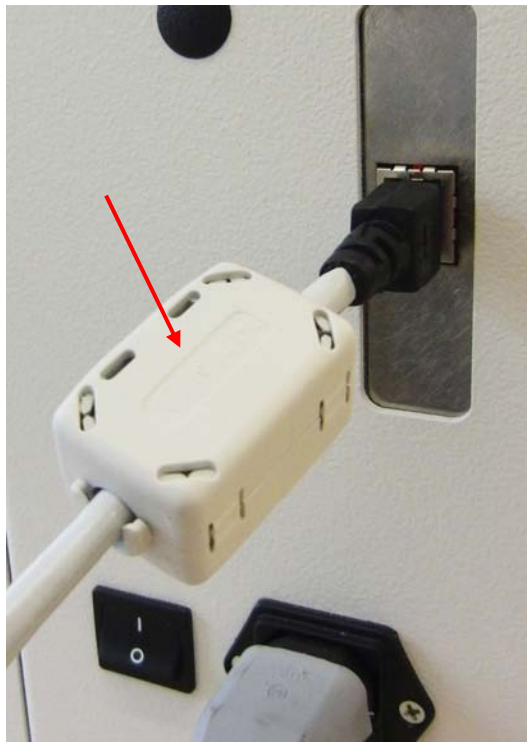

Figure 39: Ferrite with plastic case
- Please attach the “Splitting Ferrite with plastic case” (part number 9204150F) to the end of the Ethernet cable that goes into the printer. See Figure 39.